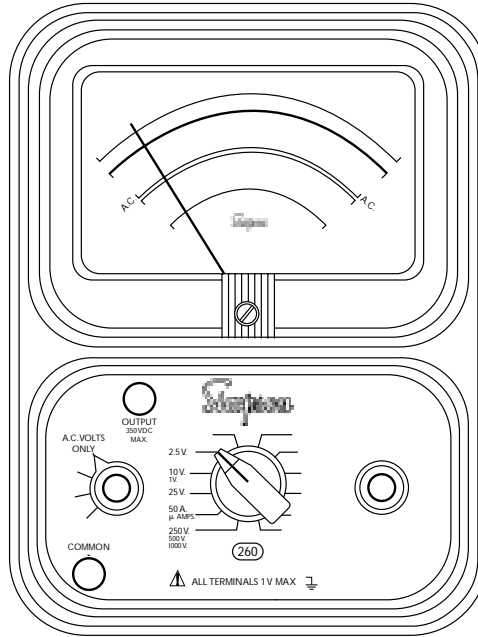

Figure 4-9. Jacks and Switch Positions for Output Measurements
- Set the function switch to AC volts only position (Figure 4-9).